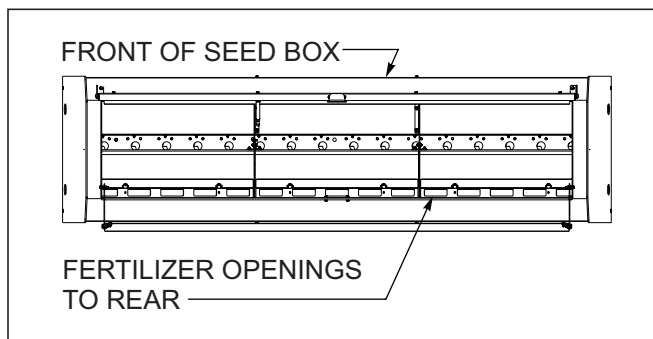

Figure 4-12: Fertilizer Box w/Cover Opening to Rear
- a. To use the dry fertilizer option, the covers in the bottom of the rear fertilizer compartment must have the openings to the rear *See Figure 4-12*. This will close off openings to the seed compartment and allow dry fertilizer to enter the fertilizer meters.